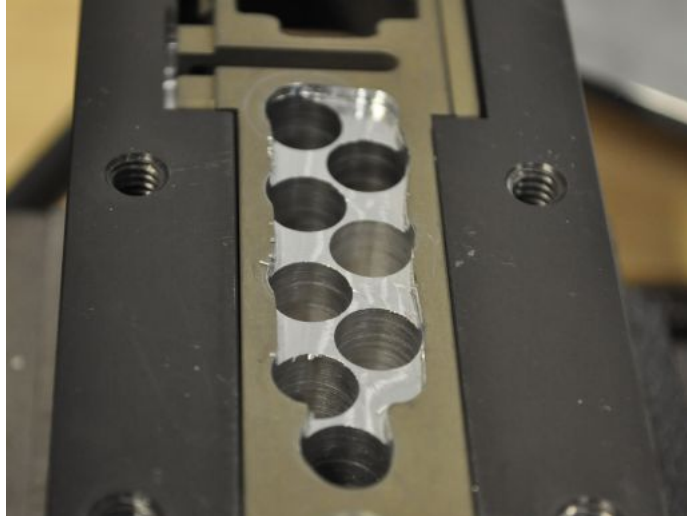

Figure 3.9: Polygon formed without the end-mill touching the jig (1/16" approx. gap)
- e. Form polygon with 1/16" gap between end mill and template (figure 3.9)